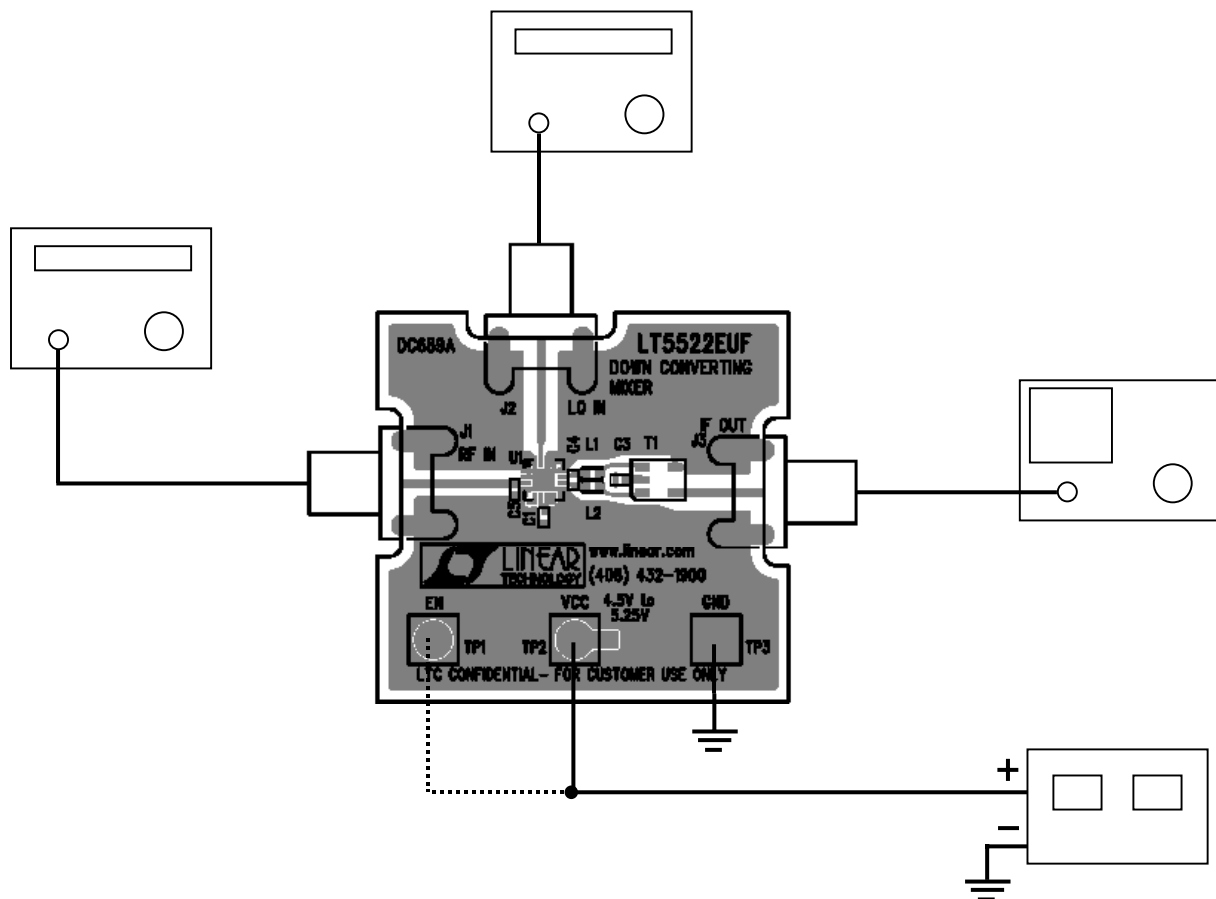

Figure 2. Test Set-Up for Mixer Single-Tone Measurements.
1. Connect all test equipment as shown in Figure 2.
3. Connect TP1 (EN) to the 5V power supply; the mixer is enabled (on).